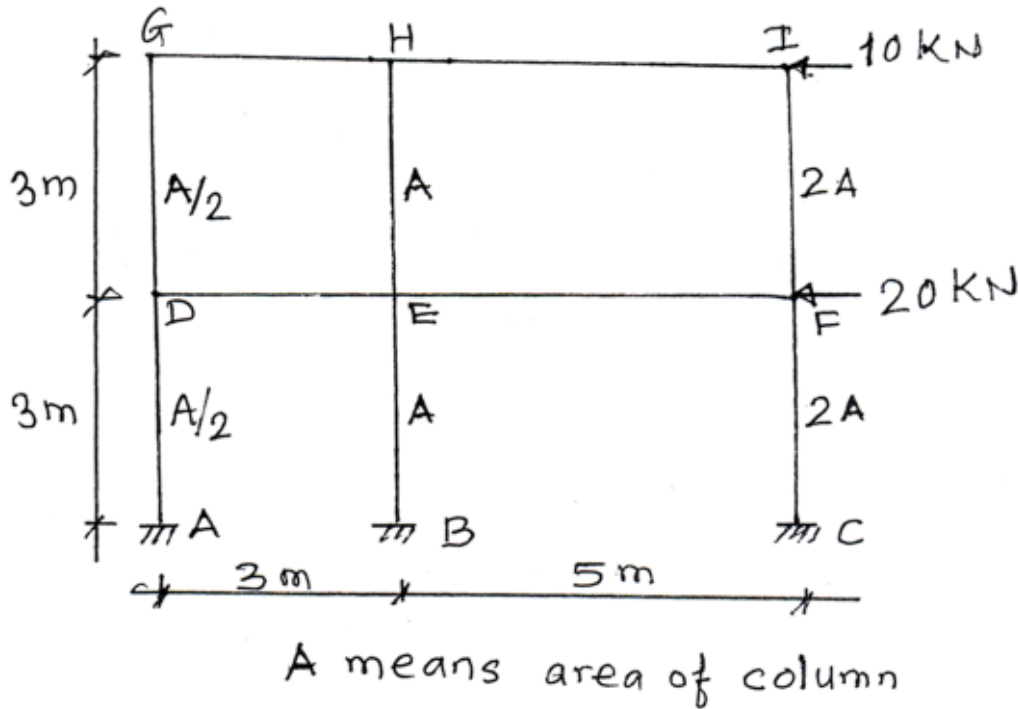

Fig. 5
5. State the assumptions made in Cantilever Method of Approximate Analysis, and hence analyses the rigid jointed frame loaded and supported as shown in fig. 5, Draw BMD, SFD and Axial Force Diagram for the beam and column of Ground story only. 16